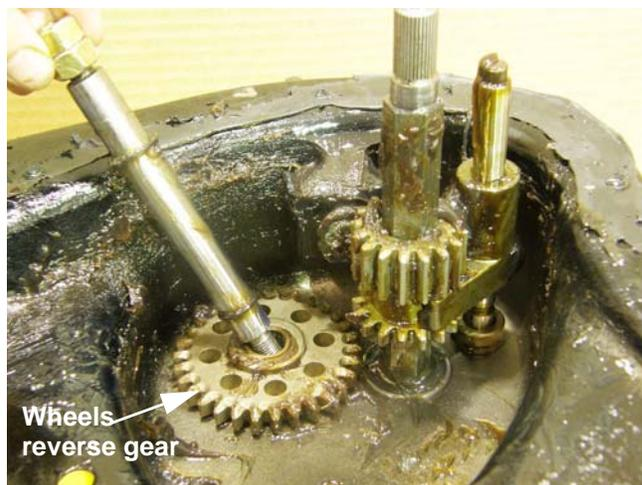

Figure 5.48
6. With the counter shaft removed, the bottom gear (wheels reverse drive) and the washer that fits beneath it can be maneuvered out of the housing. See Figure 5.48.